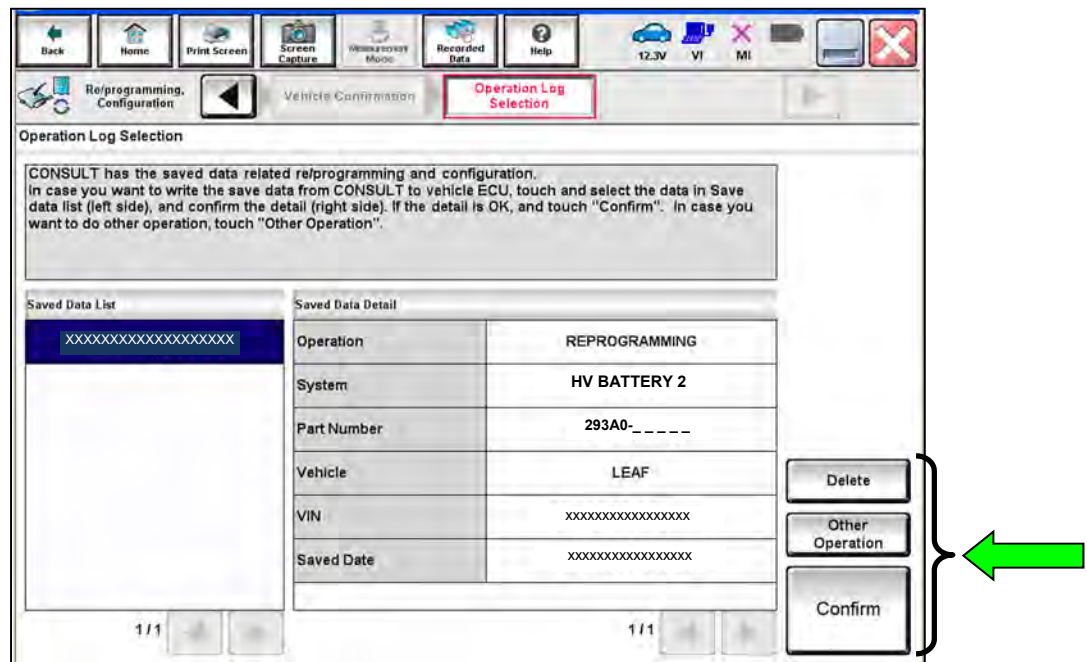

Figure 13
24. If the screen in Figure 13 appears, first select **Delete**, select **Confirm**, and then select **Other Operation**.